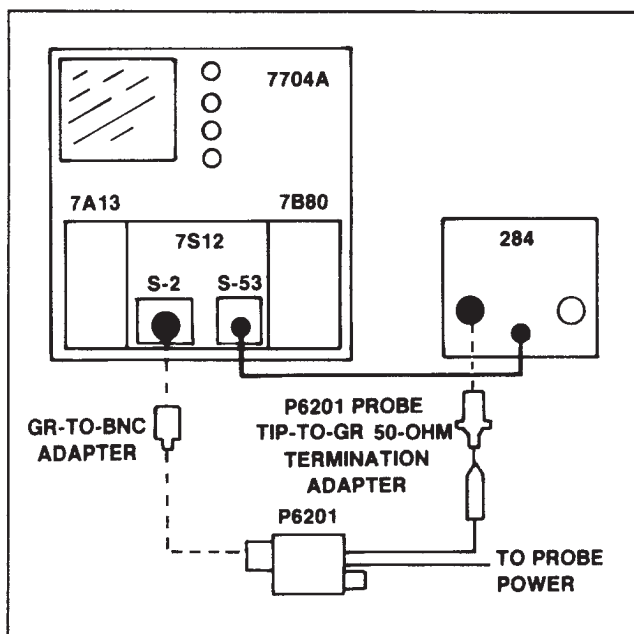

Fig. 5-2. Setup for testing with sampling oscilloscope.
- a. Connect the P6201 and equipment as shown in Fig. 5-2.
- a. Connect the equipment as shown in Fig. 5-2.